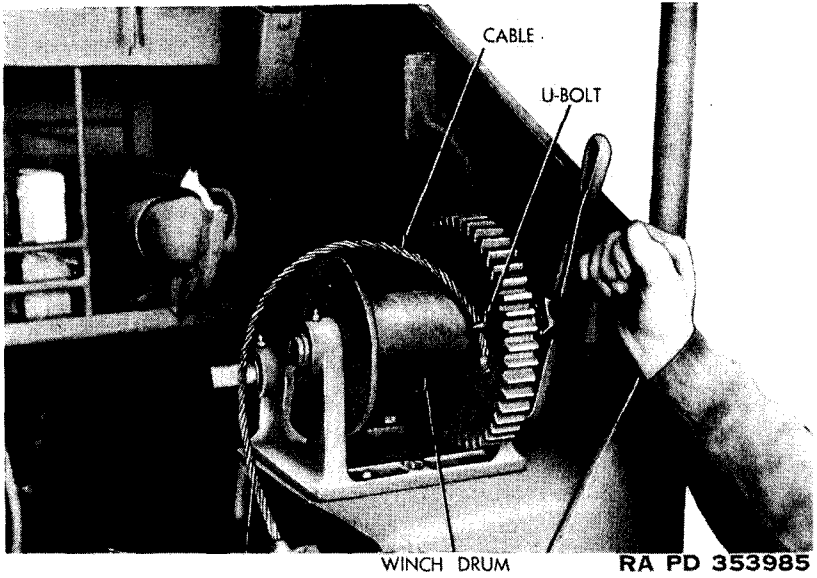

Figure 39. Disconnecting cable from hoist drum (M41).
a. **REMOVAL.** Unwind the cable from hoist drum and disconnect by loosening cable V-bolt (fig. 39). Pull the cable from sheaves, and disconnect from spade by removing three cable clamps. Attach hoist to foot of spade to prevent injury to personnel removing spade. Remove lock, bolt, nut, and lock washer from right spade foot (fig. 40).